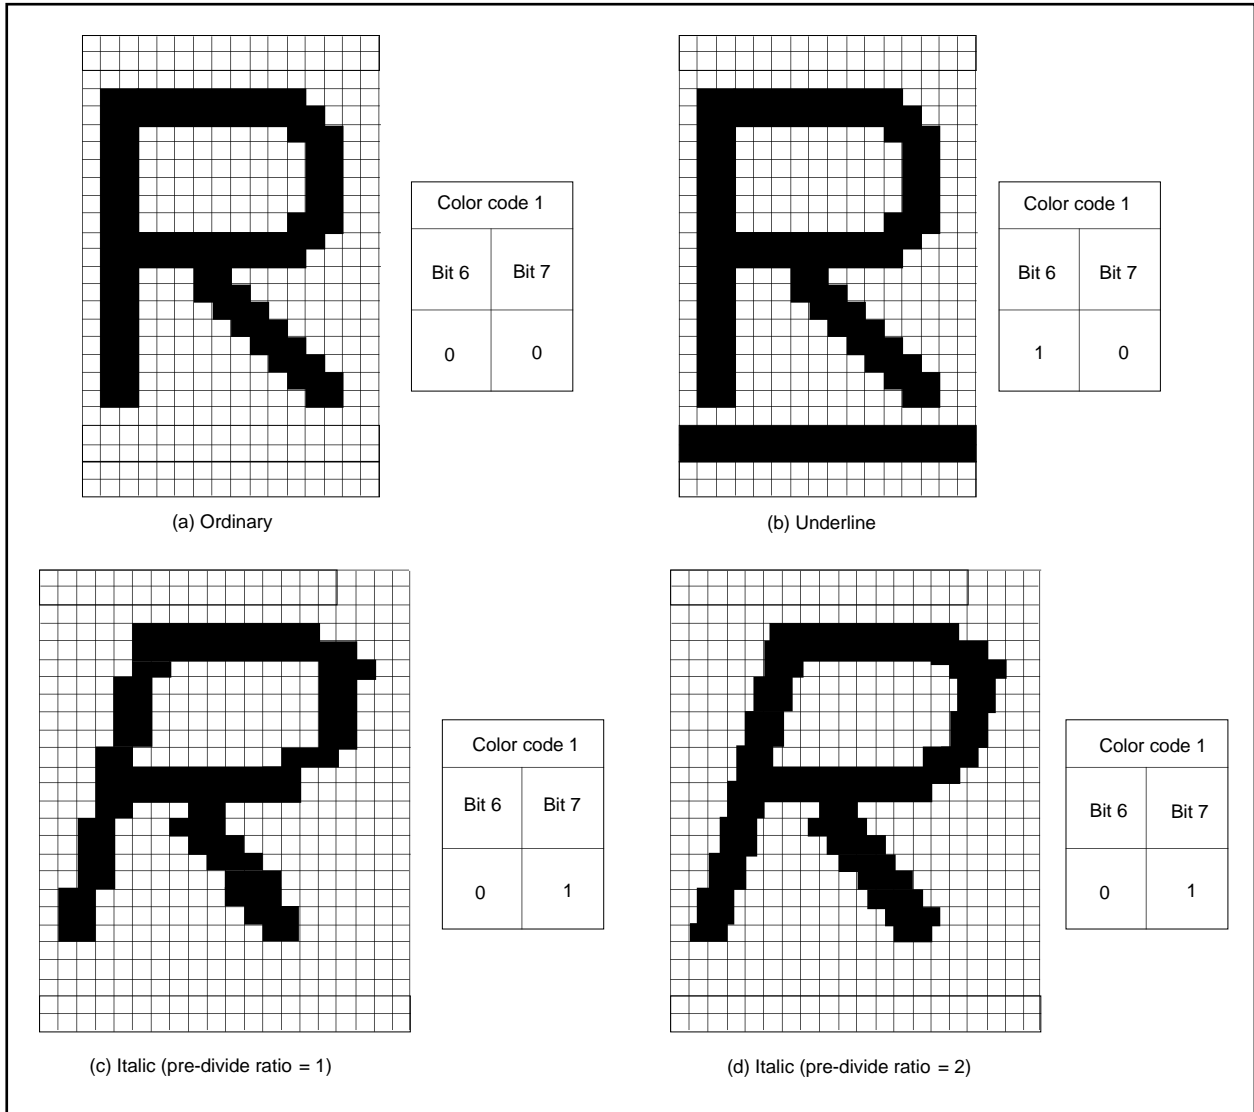

Fig. 74. Example of Attribute Display (in CC mode)
- 2: When the pre-divide ratio = 1, the italic character with slant of 1 dot X 5 steps is displayed (refer to Figure 74 (c)). When the pre-divide ratio = 2, the italic character with slant of 1/2 dot X 10 steps is displayed (refer to Figure 74 (d)).